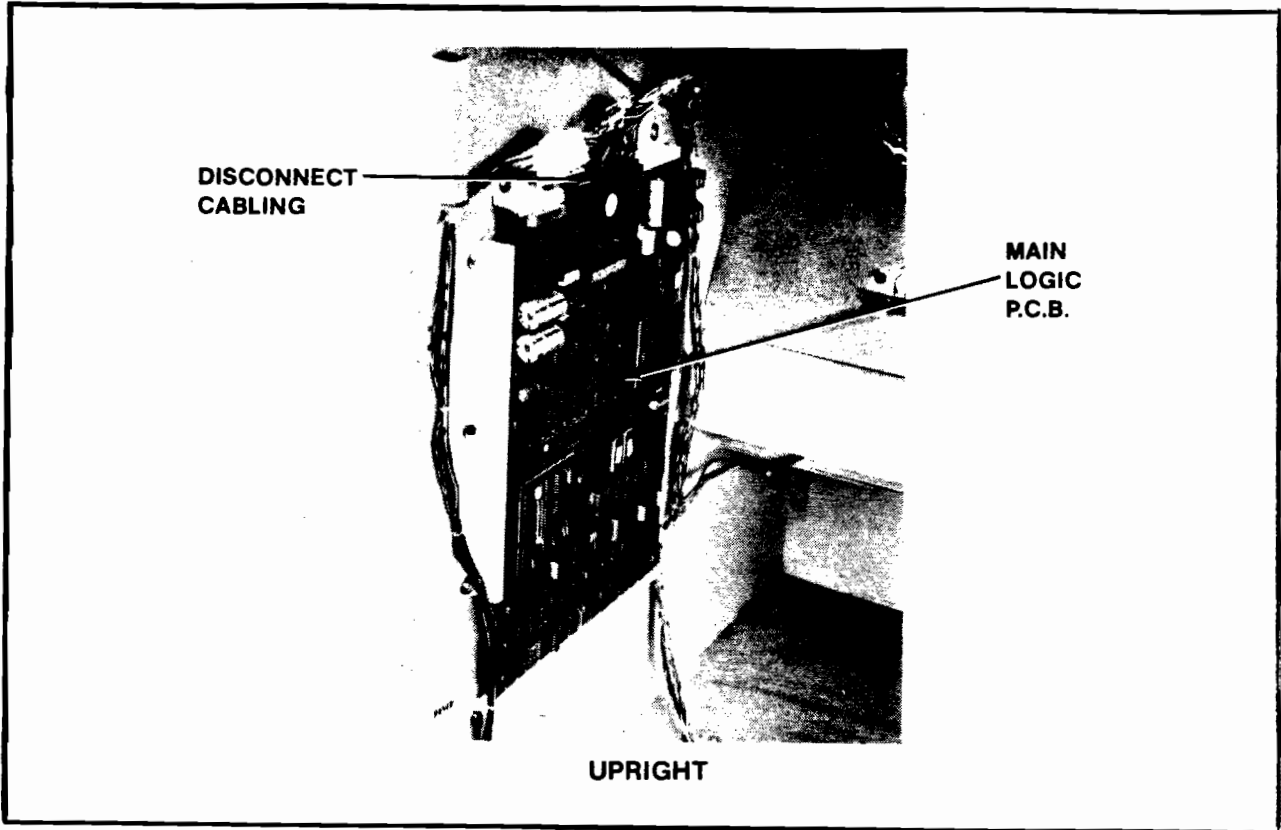

Figure 1
- Disconnect the Main Game Logic Board from all its cabling (see Figure 1).